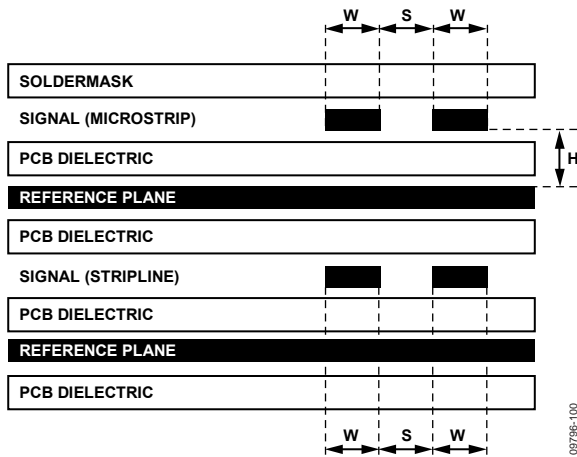

Figure 54. Example of a PCB Cross-Section
The high speed differential inputs and outputs should be routed with $100\ \Omega$ controlled impedance differential transmission lines. The transmission lines, either microstrip or stripline, should be referenced to a solid low impedance reference plane. An example of a PCB cross-section is shown in Figure 54. The trace width (W), differential spacing (S), height above reference plane (H), and dielectric constant of the PCB material determine the characteristic impedance. Adjacent channels should be kept apart by a distance greater than $3W$ to minimize crosstalk.